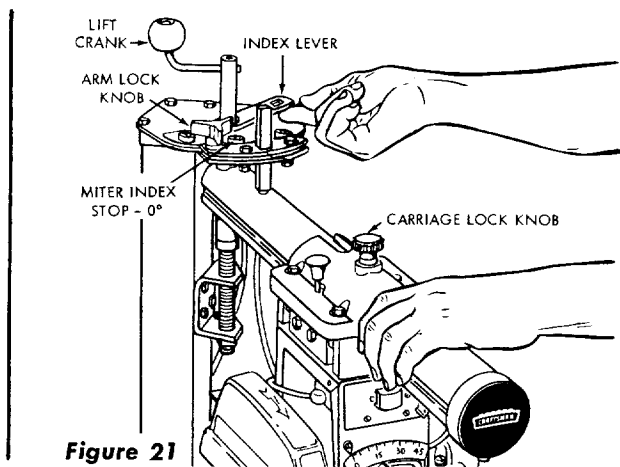
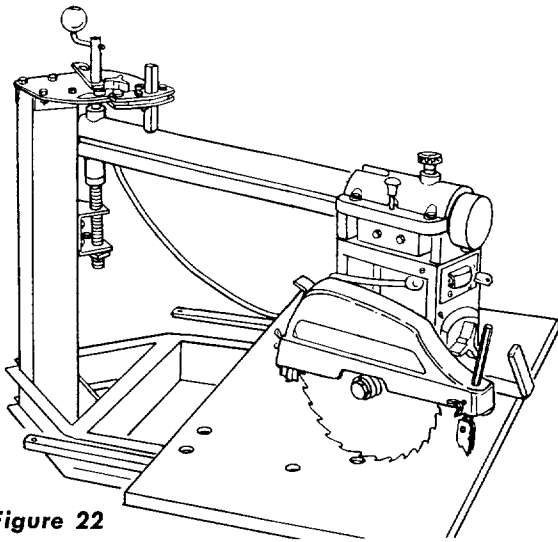

Figure 21
Figure 22
- a. Loosen the arm lock knob (figure 21) lift up on the index lever and rotate it completely clear of the square index post, as shown in figure 21. Move the radial arm to the left. Position the saw adjacent to the left front table mounting screw. (See figure 22.)